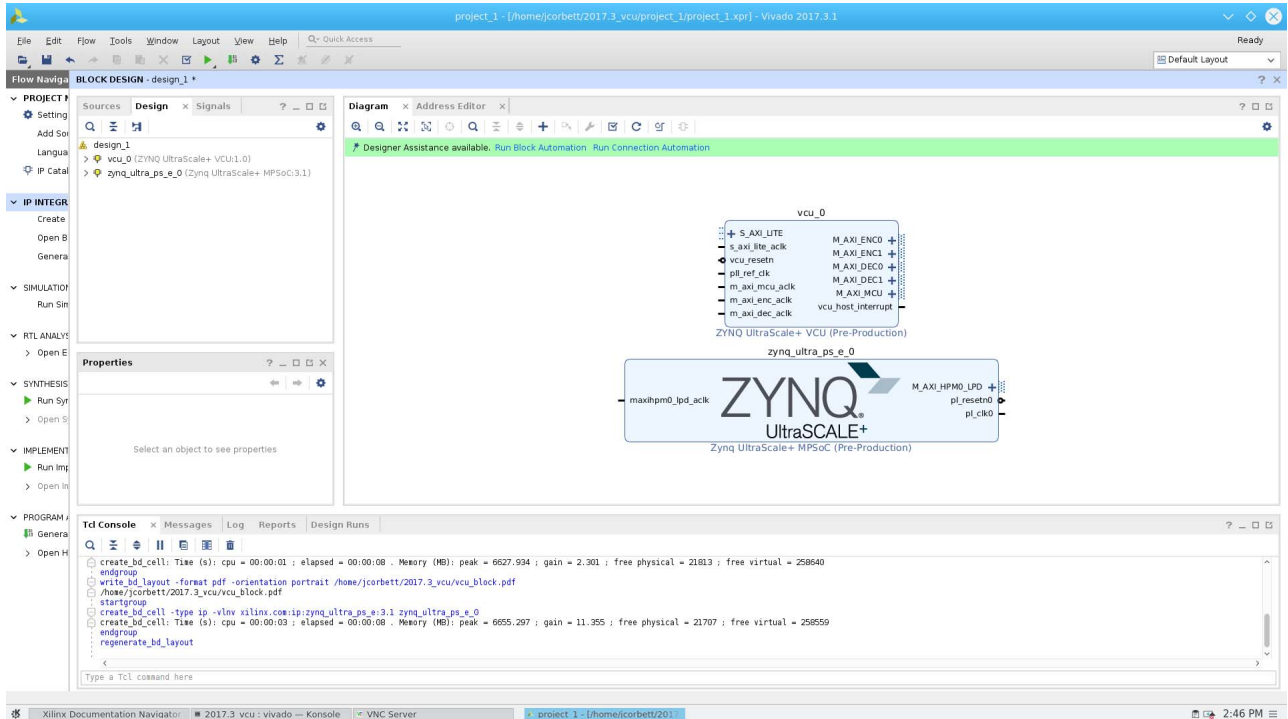

Figure 11-8: Zynq UltraScale+ MPSoC
9. Add Zynq UltraScale+ MPSoC IP to the block design as shown in Figure 11-8.